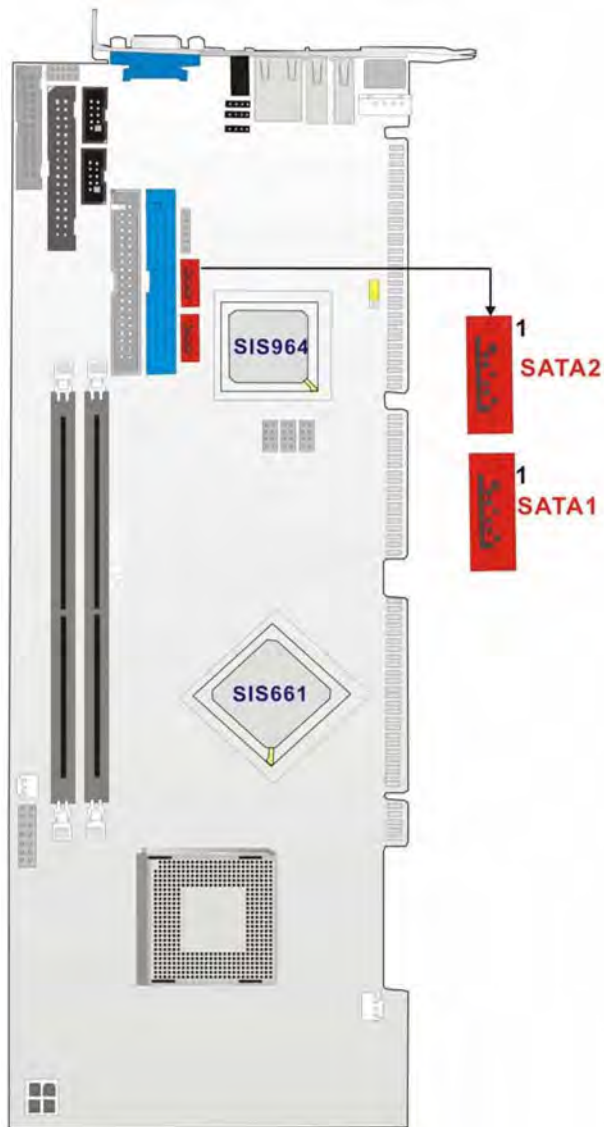

Figure 3-11: SATA Connector Locations
- CN Location:** See Figure 3-11